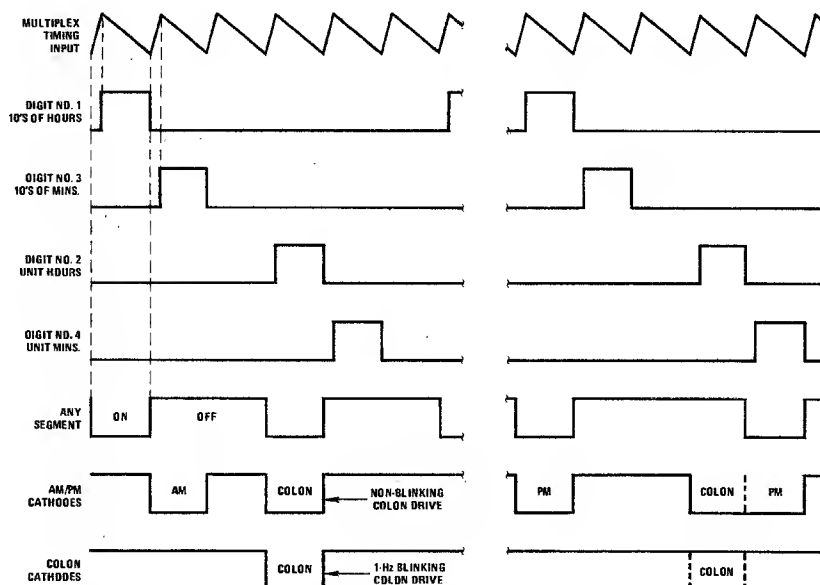

FIGURE 3. Output Timing Diagram
**AM/PM Cathode Output (pin 16):** Current with this writing, gas-discharge clock displays are available with two types of AM/PM indications, (1) AM and PM indicators common to digits 3 and 4 respectively; and (2) a PM only indication common to digit 1. Figure 3 illustrates an AM/PM cathode drive output that is compatible with both display types. Note that this same output also provides a non-blinking (steady) colon drive common to digit two. Power failure is shown by turning off this output at a 1 Hz rate.
**Colon Cathode Output (pin 17):** As an optional indication of clock operation, some users may prefer to display a 1 Hz activity. As shown in Figure 3, a cathode drive output is provided to facilitate a blinking colon.